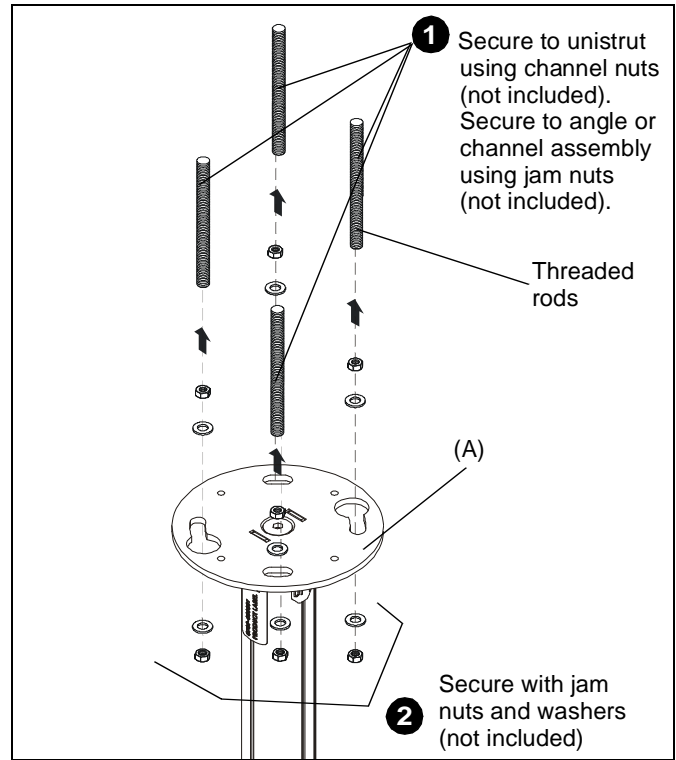

Figure 6
2. Secure the threaded rods to the CPA mount with 3/8" jam nuts (not included) and washers (one of each on inside and one of each on outside-not provided). (See Figure 6)